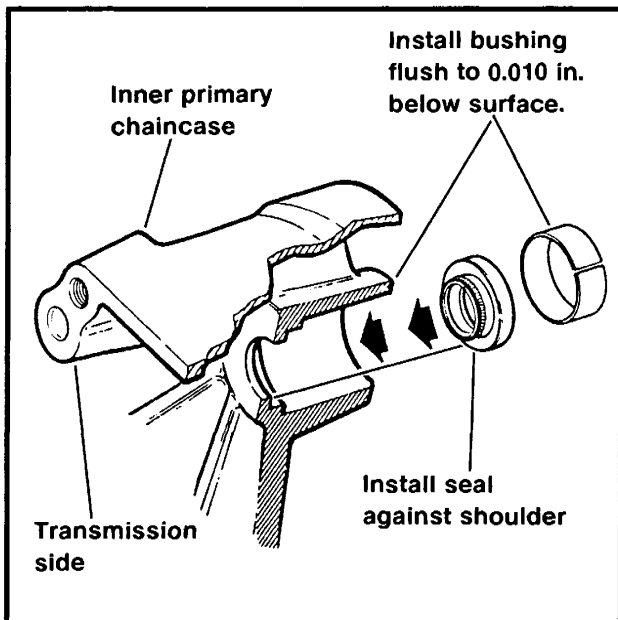

Figure 5-46. Primary Chaincase Jackshaft Bore
REMOVAL/DISASSEMBLY (Figures 5-46 and 5-47)
3. Hold pinion gear in place and remove jackshaft bolt (1), lockplate (2), thrust washer (3) and O-ring (4).
5. Remove pinion gear (5) from jackshaft (6).
6. Remove coupling (7) and spring (8). Spring (8) and retaining ring (9) are inside coupling (7). Replace retaining ring if necessary.
7. If coupling (10) did not come off with jackshaft assembly, remove it from the starter shaft. Replace retaining ring (11) if necessary.
8. See Figure 5-46. If oil seal / bushing are worn or damaged, remove them and install new parts as shown.